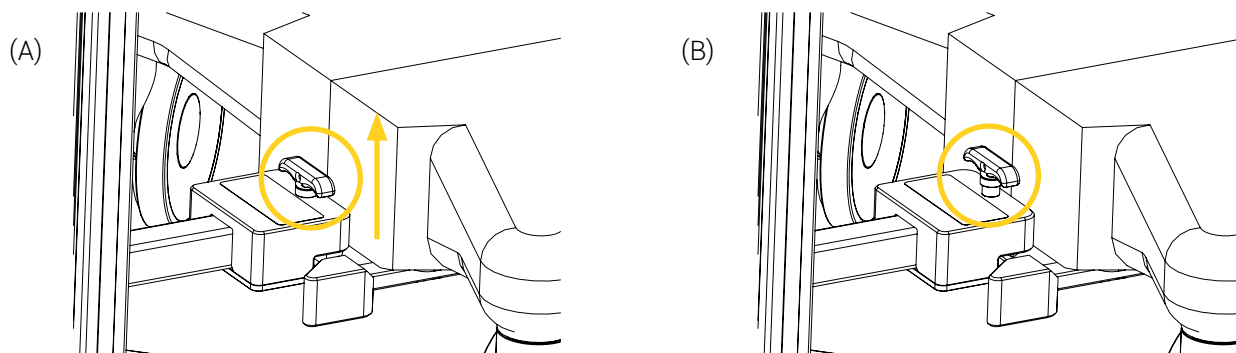

Figure 7 : Quick release mechanism
1. If required, disengage the braking system on all four (4) dual wheel swivel casters of the THS Neonatal Cart.
2. Pull and maintain the knob of the fold-up hitch quick release mechanism to release the THS coupling device (Figure 7).